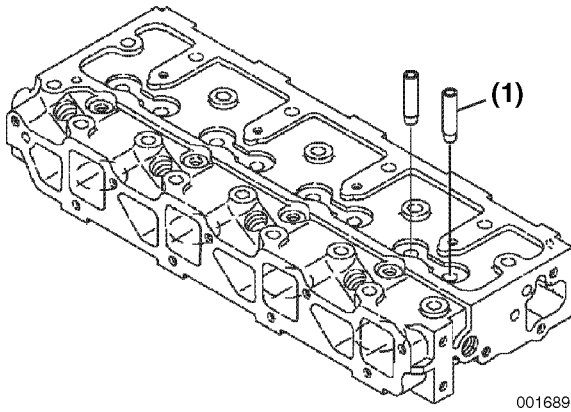

Figure 6-26
2. Immediately after removing the valve guides from the freezer, insert the valve guides (Figure 6-26, (1)) in their proper positions.